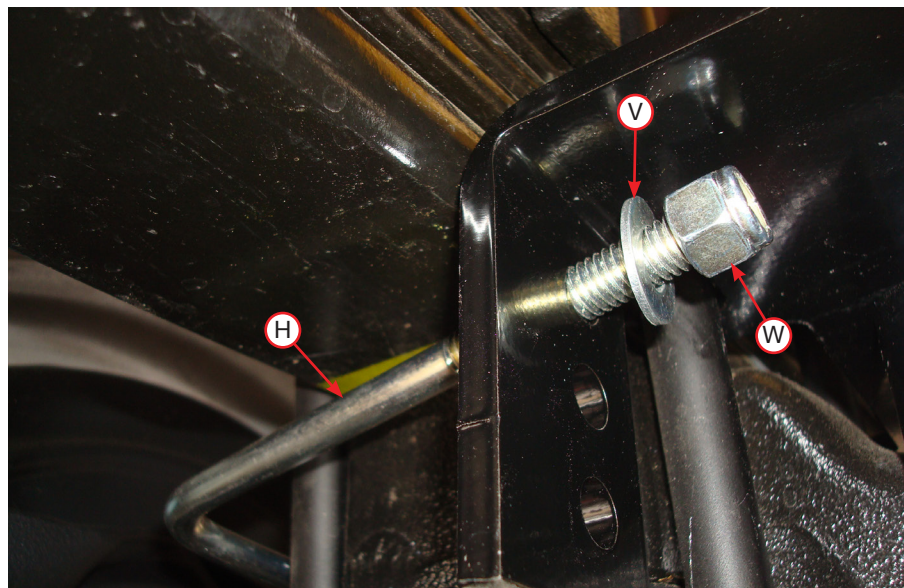

Fig. 17
3. Install the U-bolts (H) around the stock U-bolt/leaf spring assembly and insert through the topmost holes in the lower bracket main plates (Fig. 17). Cap with the 3/8" flat washer (V) and 3/8" nylon lock nuts (W). Snug bolts evenly, just enough to hold the lower bracket main plate flush against the stock U-bolts.